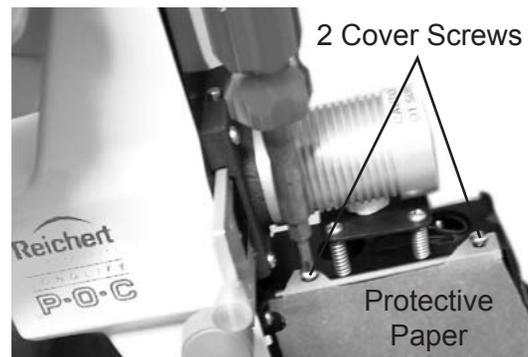

Figure IS-19 Remove 2 Screws
2. Using a Philips head screwdriver, remove the two screws that hold the Protective Paper over the electrical housing, and fold down the cover. Refer to Figure IS-19.
6. Fold the Protective Paper back into position and secure it with the 2 Cover Screws. Refer to Figure IS-19.